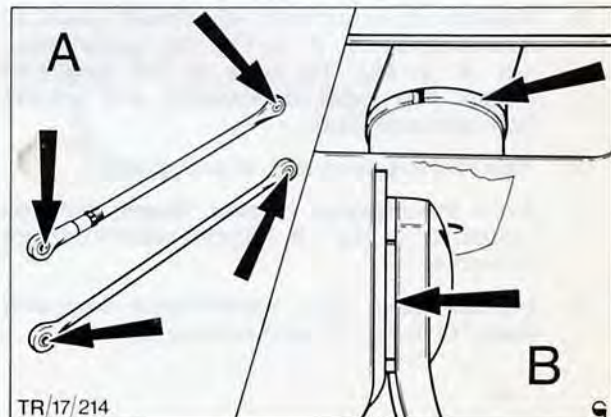

Fig. 12. Bush locations
- If necessary renew selector rod and selector lever bushes. Fig. 12.